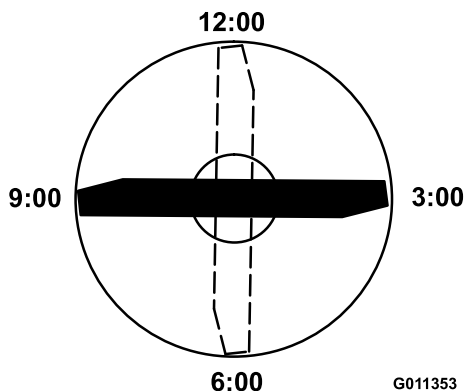

Figure 99
4. Position the cutting edge of the marked end of the blade at 12 o'clock (straight ahead in the direction of mowing) (Figure 99) and measure height from table to cutting edge of blade.
5. Rotate the marked end of the blade to the 3 and 9 o'clock positions (Figure 99) and measure the heights.